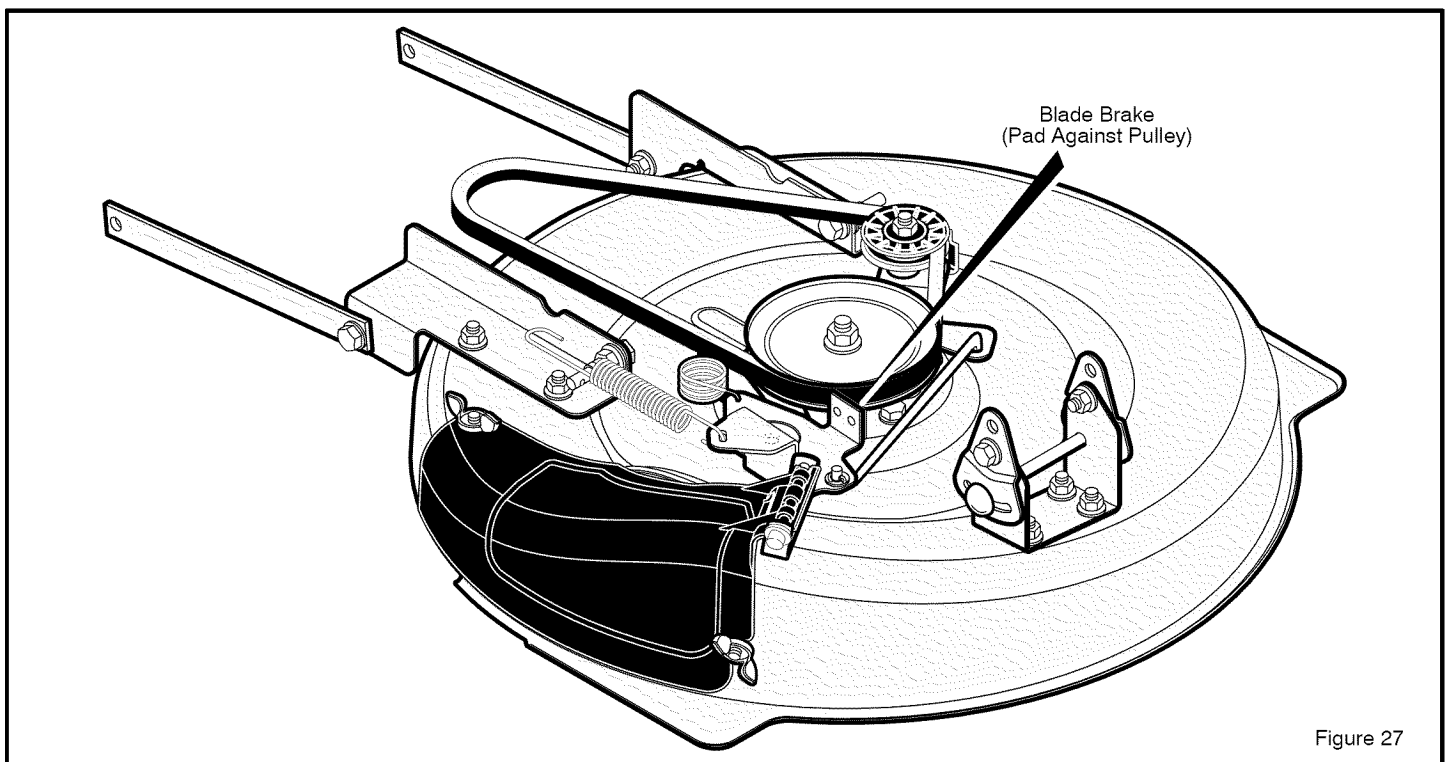

Figure 27
7. Check the operation of the **blade brake**. Rotate the pulley with your hand. Make sure the **brake pad** is pressed tightly against the pulley (Figure 27).